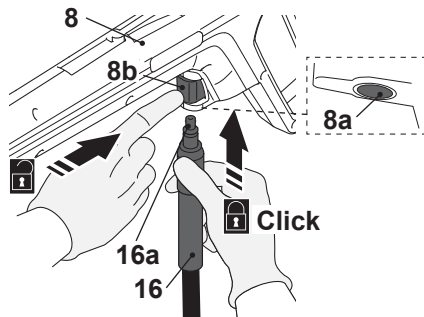

Fig. 3
- > Insert the connector (16a) of the pressure hose (16) into the hose connection port (8a) of the spray gun (8). Ensure it snaps in place (Fig. 3). Press the release button (8b) to unlock if necessary.